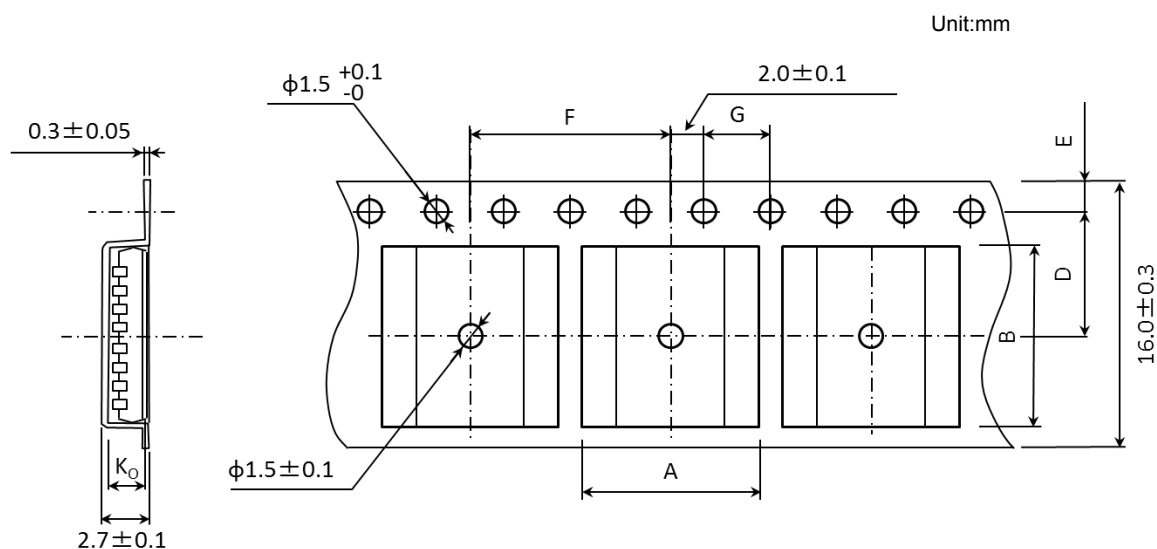

Figure 2 Tape Forms
- (1) Material: Plastic (production against electrostatics)
- (2) Dimensions: The tape dimensions are shown in Figure 2 and Table 2.